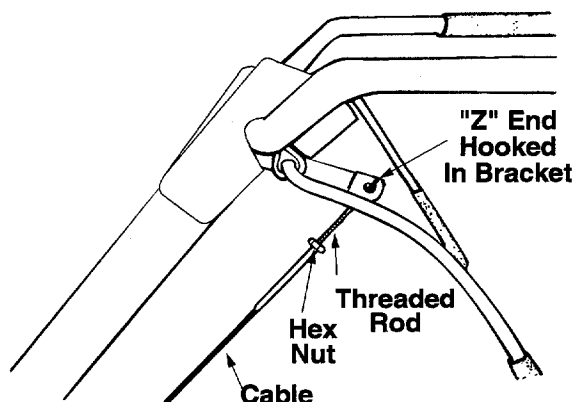

Figure 6
2. Unthread the rod from the rest of the cable. Hook the "Z" end of the rod into the bracket underneath the handle assembly from the right hand side as shown in Figure 6.
The throttle control lever is located on the engine. It controls the engine speed and stops the engine. See Figure 6.